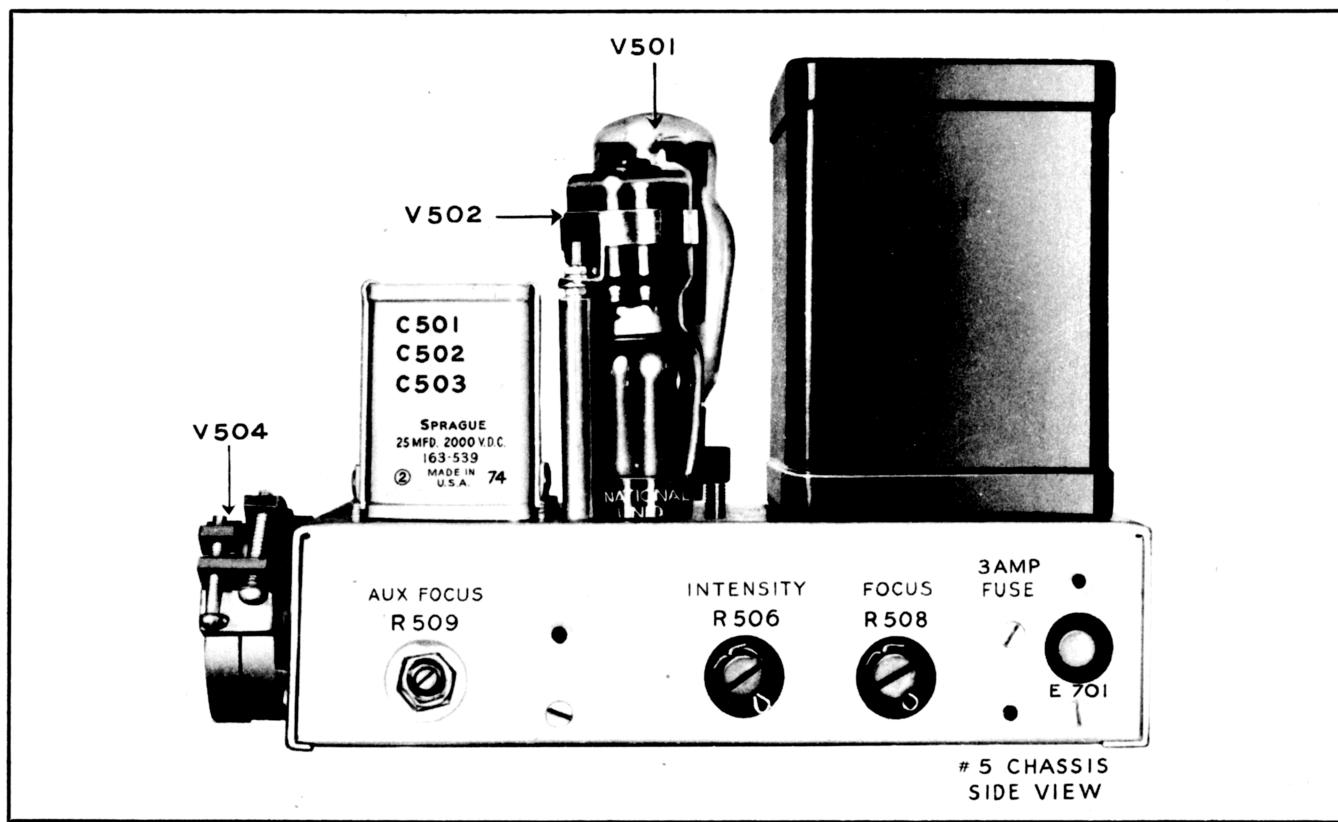

Figure 4-23. Chassis No. 5—Side View
(4) As the cathode ray tube draws little current an RC filter is provided for the high voltage rectifier. The rectifier is a half-wave, which is satisfactory for this purpose. (See figs. 4-23, 4-24.)
(5) The low voltage rectifier is a full-wave rectifier whose output is filtered and regulated in chassis 4.
(6) Two focus controls, R-508 and R-509, are provided. By working these together, a sharp focus may be obtained for all positions of the beam. These focus controls vary the potential applied to the first and second anodes.
(7) The dc. re-inserter, V-503, acts as a diode. The only reason a pentode is used is that several other JAN-6AK5 tubes are used in the circuit and this one may be employed as a spare. The dc. re inserter serves to maintain a constant beam intensity in the cathode ray tube regardless of the amplitude of the blanking voltage and the speed of the sweep. It may be seen that the blanking voltage is a square wave the amplitude of which is adjustable and dependent on sweep speed. Since this voltage is applied directly to the grid of the cathode ray tube, it increases the potential difference between the grid and cathode, and thus increases the beam intensity, in direct proportion to the amplitude of the blanking voltage. When the dc. re inserter is placed in the circuit, the positive portion of the square wave causes V-503 to conduct; electrons flow from cathode to grid and through resistor R-510 back to the cathode. This flow is in such a direction that the grid end of resistor